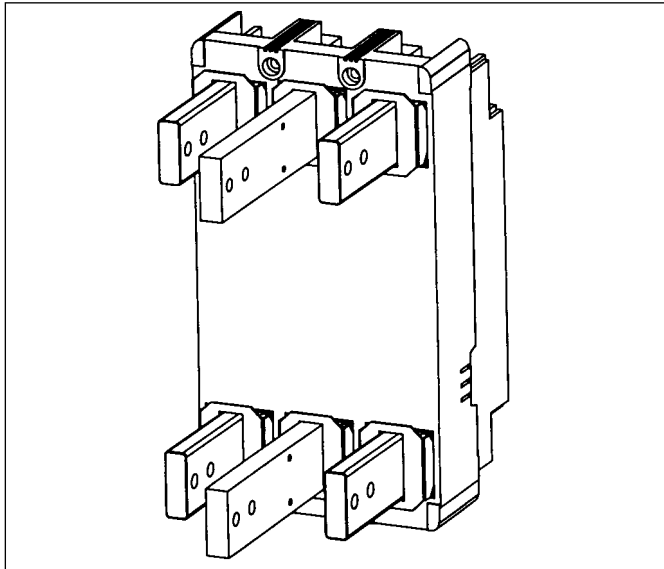

Figure 2-4 1600 Amp Rear Connectors and barriers installed (required for 1600 Amp Rear Connect breakers and molded case switches)
- Install the barriers, covering the ends of the hardware and connectors. Position the barriers so that the flaps are firmly set between the connectors and the edge of the base molding, (Figure 2-4).